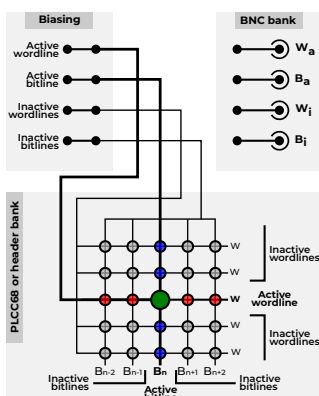

Fig. 6 - Local mode
2. **Live: External BNC** – in this mode of operation your device under test should be connected to the instrument through the BNC terminals. The board applies stimuli and reads out data exclusively through the BNC terminals (Figure 6). In the Crossbar Panel the target device appears as address [W=1, B=1]. **WARNING:** Please ensure no package is connected in the PLCC68 holder or through the header bank.